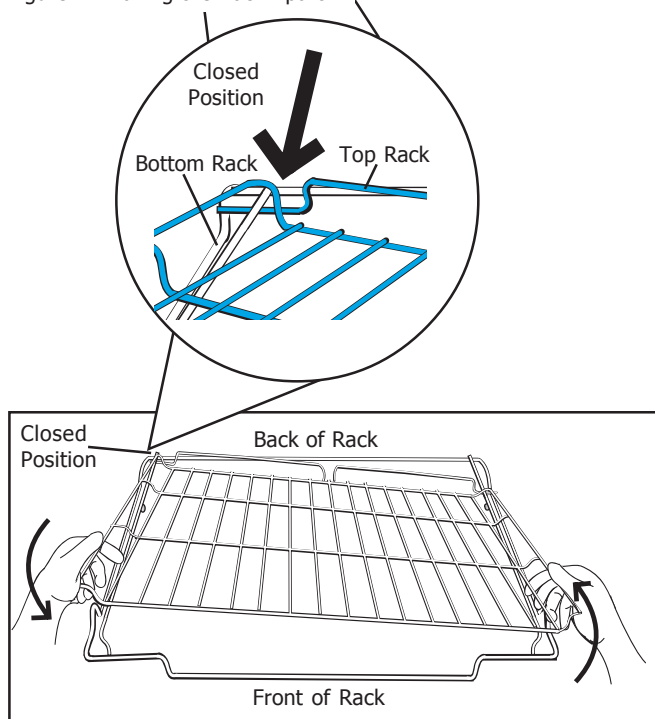

Figure 3 - Putting the Rack Together
**To reassemble rack,** hold top rack diagonally across bottom rack. Insert one side of top rack to closed position. Rotate the other side toward the back of the rack until it passes the stop (ball). Push top rack the rest of the way in (See Figure 3).